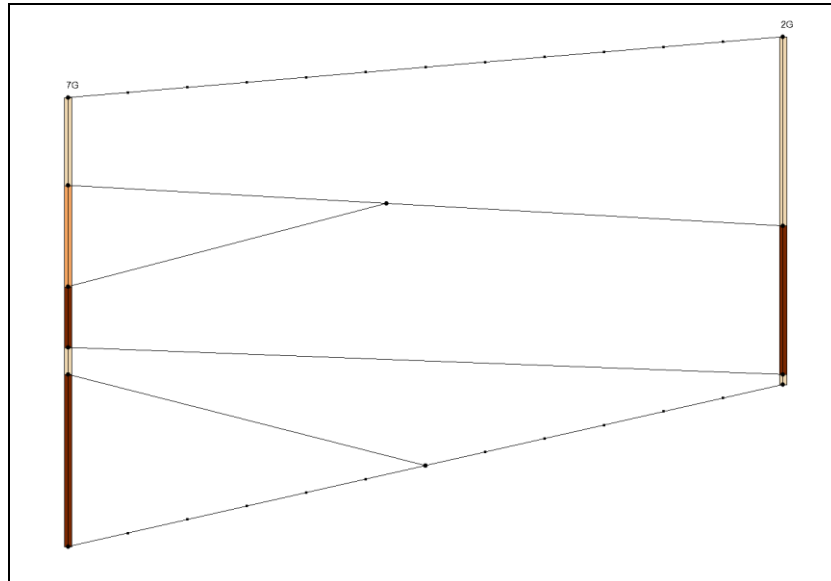

Figure 2 Cross section 7G-2G
5. Create all the arcs shown in Figure 2.